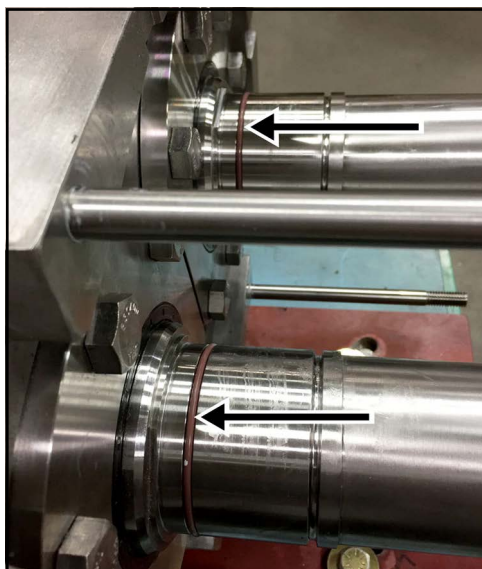

Figure 87 - Install shaft O-rings
2. (Double seal only) Install one O-ring on each shaft in the O-ring groove closest to the gear case, as shown in Figure 87.